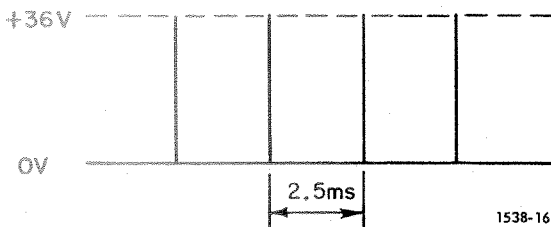

Figure 4-6. Voltage waveform at pin #3 of the panel EXT LAMP socket, S0901 (24,000 RPM).
d. Observe the waveform at pin #3 of the panel EXT LAMP socket (S0901) and compare it with that of Figure 4-6. Improper waveform is caused by trouble in the trigger generator.
- c. Compare the waveform at terminal #3 of the panel EXT LAMP socket with the correct waveform, shown in Figure 4-6. A discrepancy in the waveform indicates a broken wire associated with the EXT LAMP socket or malfunctioning of switch S903.